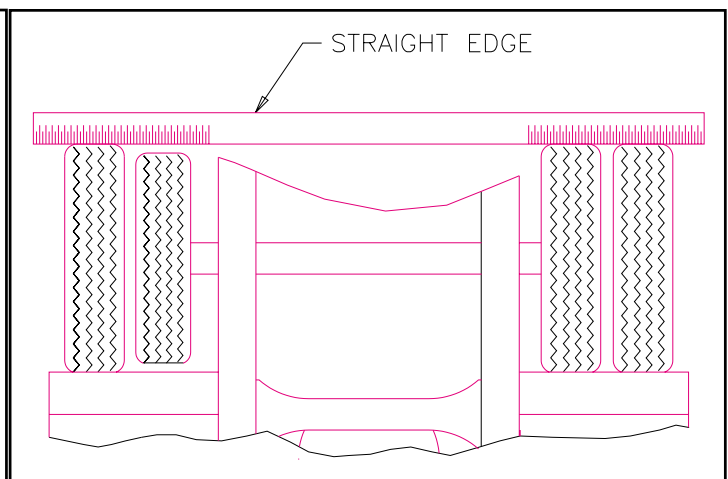

Figure 4-15 Straight Edge Method
- b. **Straight Edge or String Method:** (This method cannot be used if tire and wheel assemblies are not mounted on the axle.) Jack trailer up until the wheels are off of the ground. Hold a straight edge against the tires of both ends of an axle. A gap at one tire indicates a smaller tire. A maximum of 1/8" gap is allowed (**See Figure 4-15**).